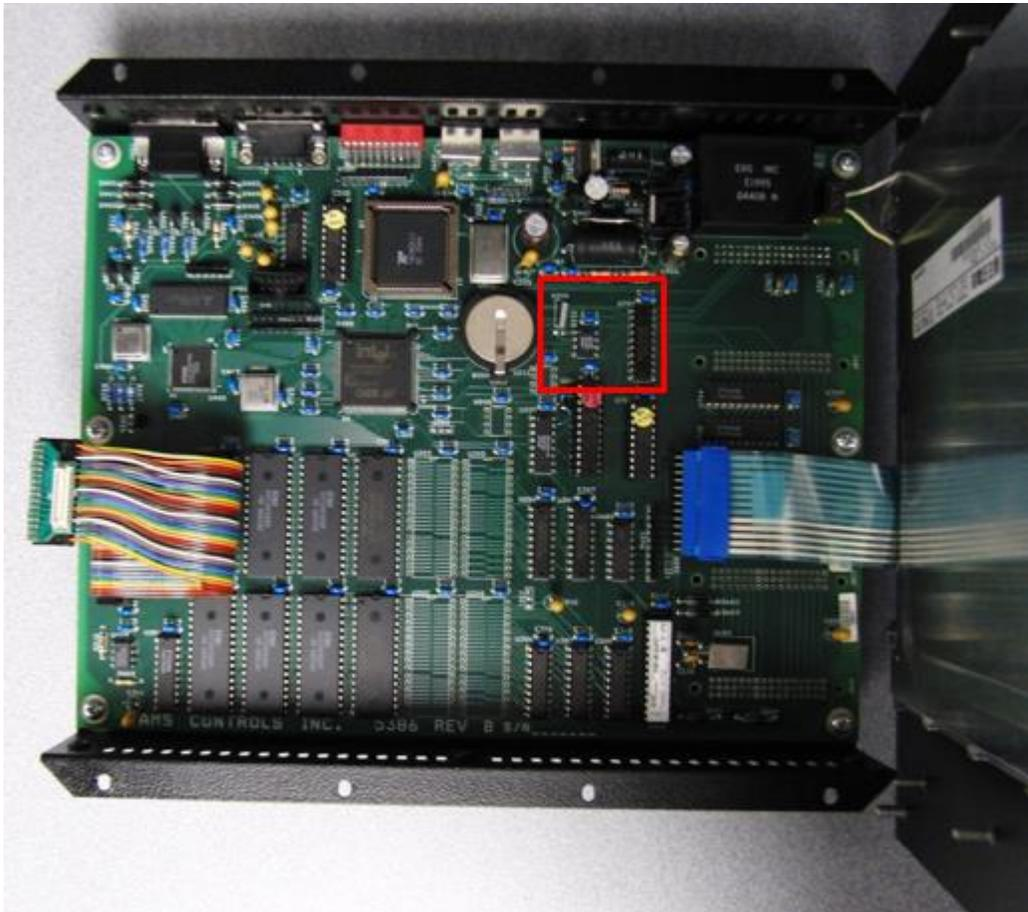

Figure 9 - Bottom side of board
8. Locate the Panasonic CR2330 battery as shown in Figure 9.